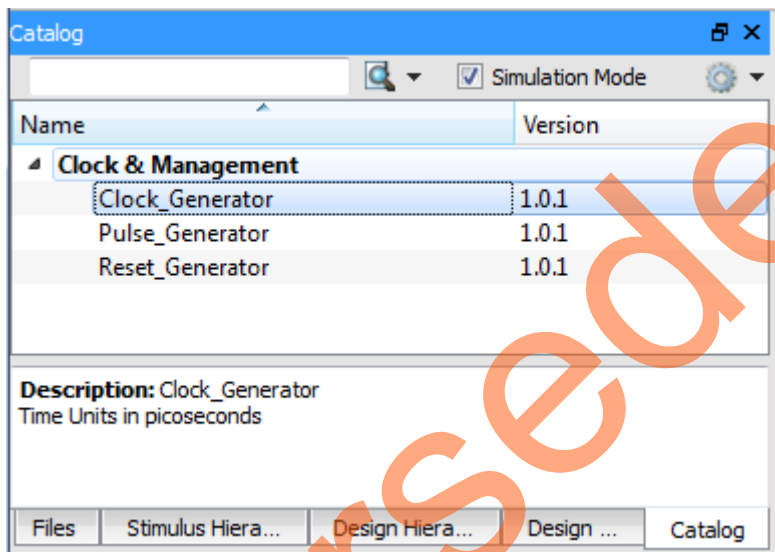

Figure 13. Simulation Cores in the Libero IP Catalog
1. Enable the SmartDesign simulation cores by selecting **Simulation Mode** check box in the Libero SoC IP catalog, as shown in Figure 13. The IP catalog will display three simulation cores to drive the device under test (DUT):